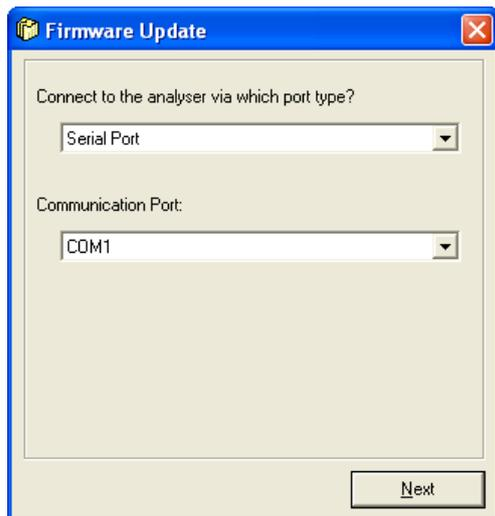

Figure 36 Communications Window.
3. Select 'Serial Port' and the COM Port on the computer from those listed on the Firmware Update screen as shown in Figure 36.